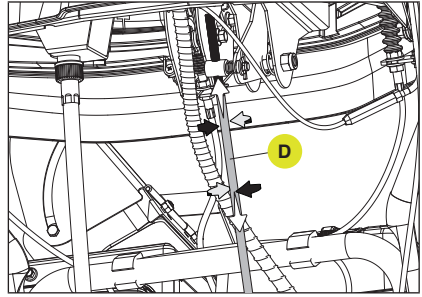

Figure 41
3. Rotate the speed control rod (D) upwards to increase forward speed and decrease reverse speed. Alternatively, rotate the speed control rod downwards to decrease forward speed and increase reverse speed. (Fig. 41)